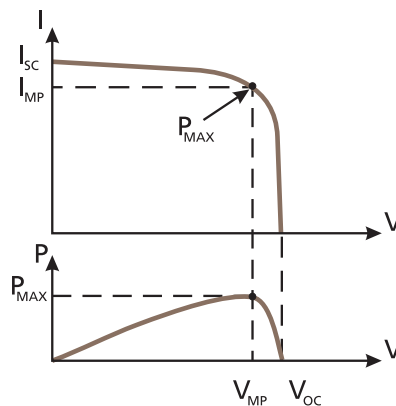

Fig. 2.8 Current (I), Voltage (V) and Power (P) Curves
A Current (I) versus Voltage (V) Curve of a PV / Solar Module ("I-V" Curve) shows the possible combinations of its current and voltage outputs. A typical I-V curve for a 12 V Module is shown at Fig. 2.8.